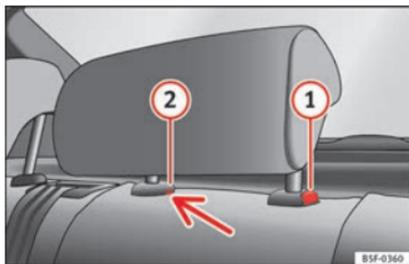

Fig. 106 Rear centre head restraint: release point.
- To set the head restraint lower down, press the **1** » **Fig. 106** button and move it downwards.
- Press the **1** » **Fig. 106** button while at the same time removing the head restraint from the backrest » .
- Insert a screwdriver in the **2** » **Fig. 106** position of the hole while at the same time removing the head restraint from the backrest » .